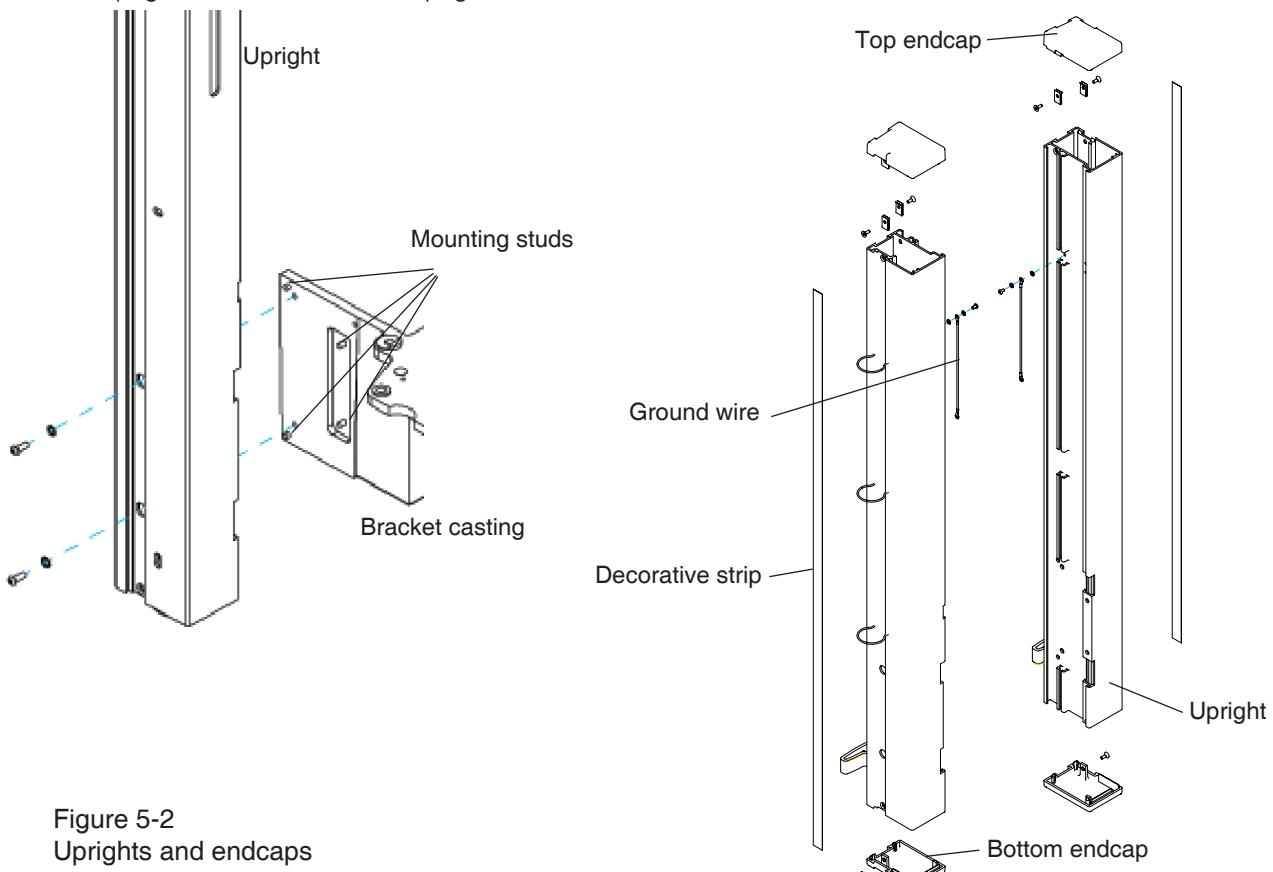

Figure 5-2
5.2 Uprights and End Caps (Figure 5-2)